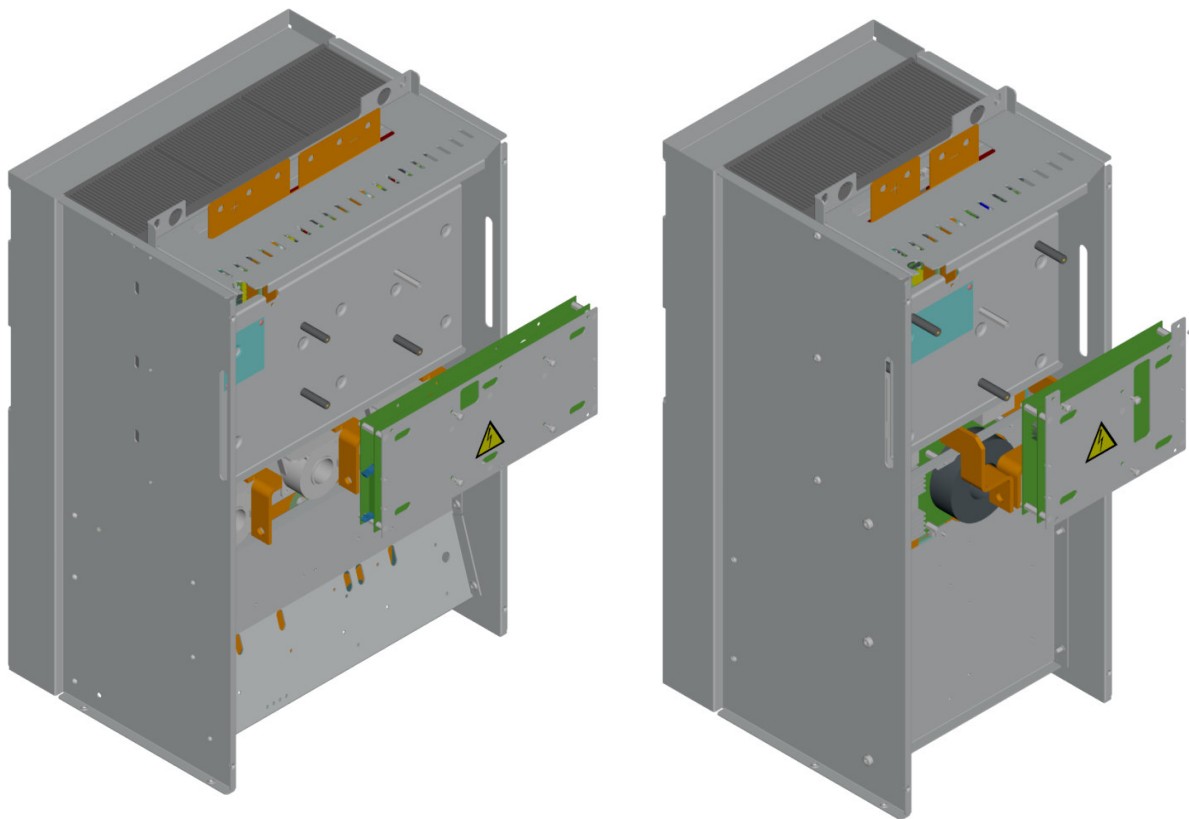

Figure 1. Remove 4 pcs M4x8 and the control pcb assembly
1. Disconnect control wires and remove the *NINT-XX* assembly (figure 1).